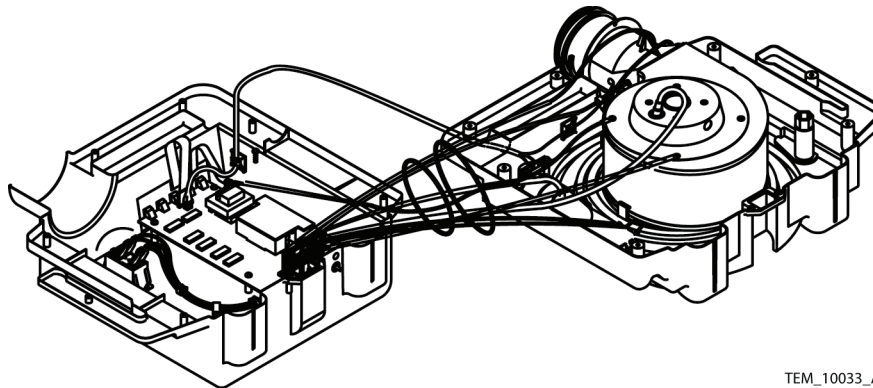

Figure 20. Separated Covers
8. Carefully separate the front and rear covers. See Figure 20.